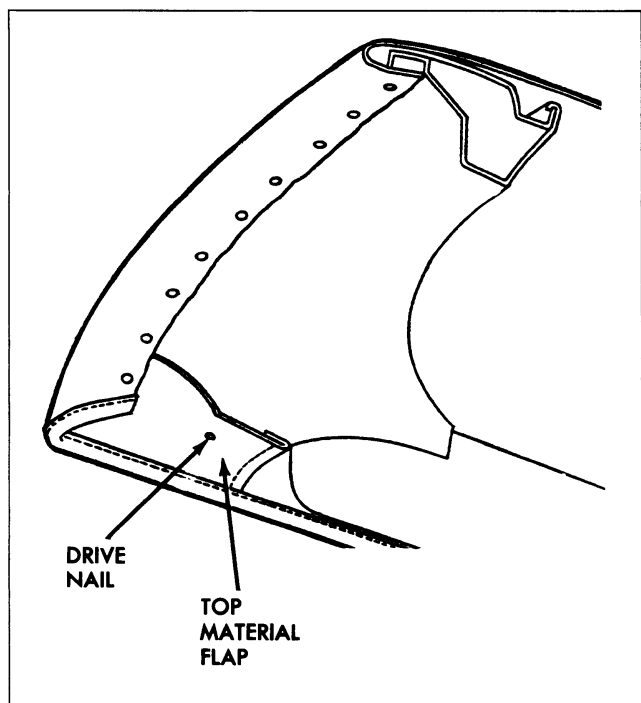

Fig. 21-42 Top Material at Front Roof Rail
2. Loosen front end of each side roof rail front weatherstrip sufficiently to detach top material flaps which are nailed and cemented to rails (Fig. 21-42).
sponding areas on side roof front rails. Fasten flaps to side roof front rails (Fig. 21-42).